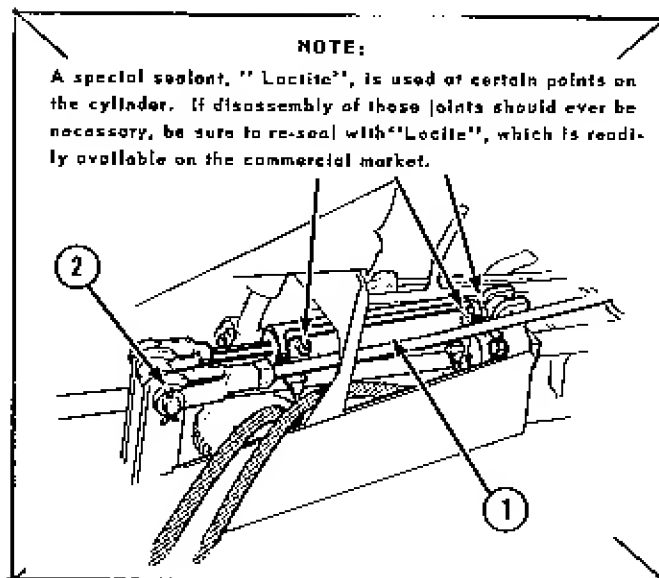

FIGURE 5
- G. Install cylinder assembly as shown (1, Fig. 5), attaching to the rear bracket with the short pin providing, and attaching the front clevis to the lift lever with the long pin and cotter keys (2, Fig. 5)